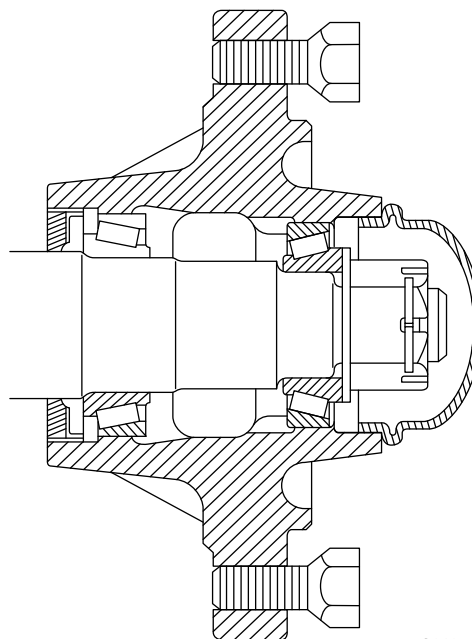

Figure 35
2. Remove the hub cap, cotter key, slotted nut, and washer (Figure 35).